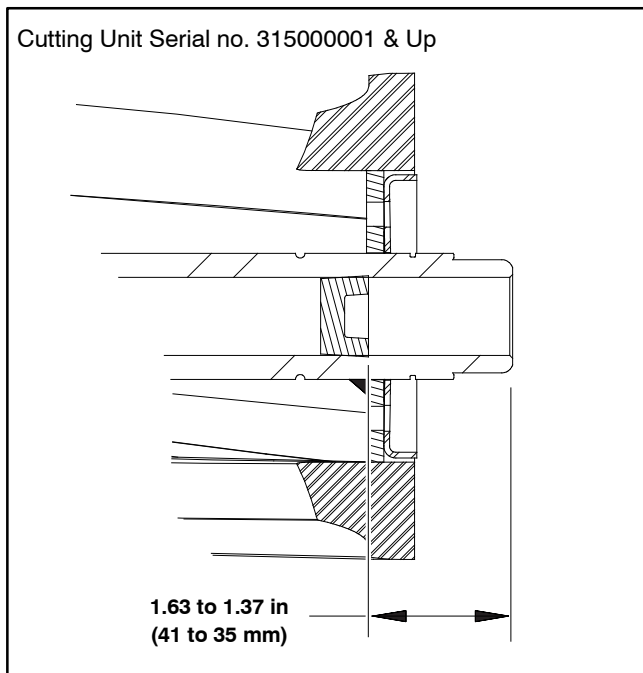

Figure 43
B. For cutting unit serial no. prior to 315000001, make sure plastic plug is pressed flush into end of threaded insert. For cutting unit serial no. 315000001 & Up, make sure plastic plug is pressed unto reel shaft **1.63 to 1.37 in. (41 to 35 mm)** below the end of the shaft (Fig. 43).